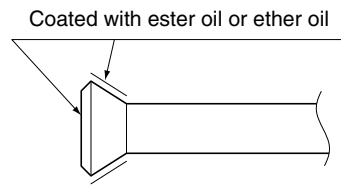

Fig. 17
- When connecting the flare nut, coat the flare both inside and outside with ether oil or ester oil and initially tighten by hand 3 or 4 turns before tightening firmly. **(Refer to Fig. 17)**